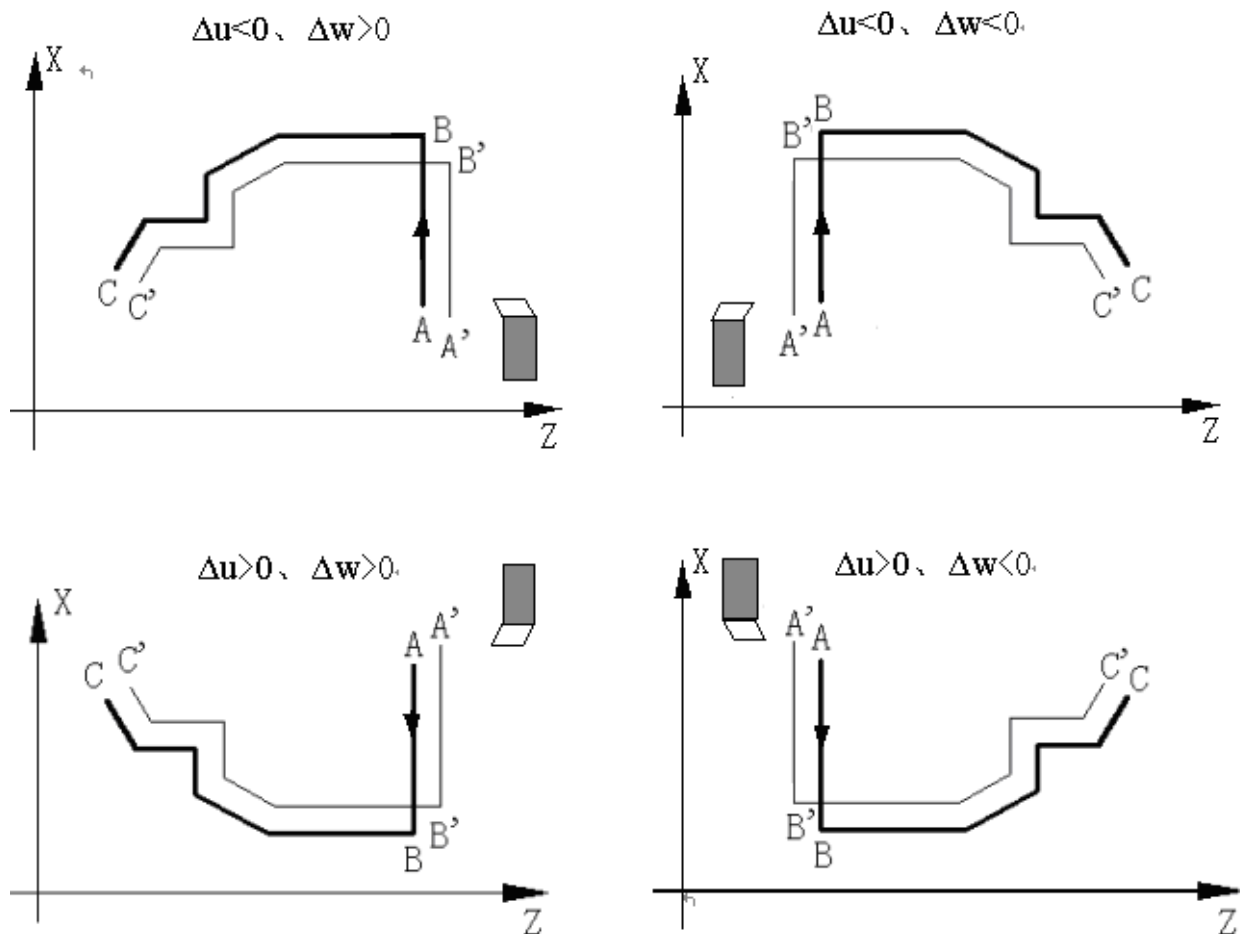

Fig.2-36
Finishing path	As Fig. 2-36, Part (3) (ns~nf block) defines the finishing path, and the start point of finishing path (start point of ns block) is the same as these of start point and end point of G71, called A point; the first block of finishing path (ns block) is used to X rapid traversing or tool infeed, and the end point of finishing path is called B point; the end point of finishing path (end point of nf block) is called C point. The finishing path is A→B→C.
Δu , Δw define the coordinates offset and its direction of finishing, and their sign symbols are as follows Fig. 2-36: B→C for finishing path, B'→C' for roughing path and A is the tool start point.